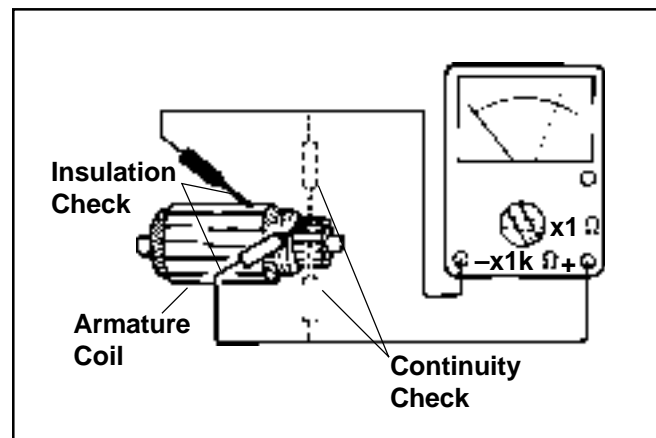

Figure 8-36. Armature Checking.
- Use an ohmmeter set to the Rx1 scale. Touch the probes between two different segments of the commutator, and check for continuity. See Figure 8-36. Test all the segments. Continuity **must** exist between all or the armature is defective.
- Check for continuity between the armature coil segments and the commutator segments. See Figure 8-36. There should be no continuity. If continuity exists between any two, the armature is defective.
- Check armature windings/insulation for shorting. See Figure 8-36.